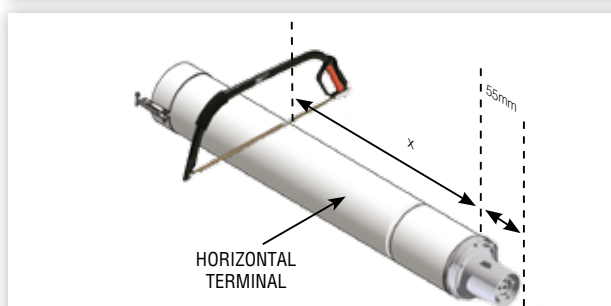

FIGURE 15. MEASURING THE FLUE
- 10.13.6 Mark this dimension onto the horizontal terminal as shown in Figure 15.